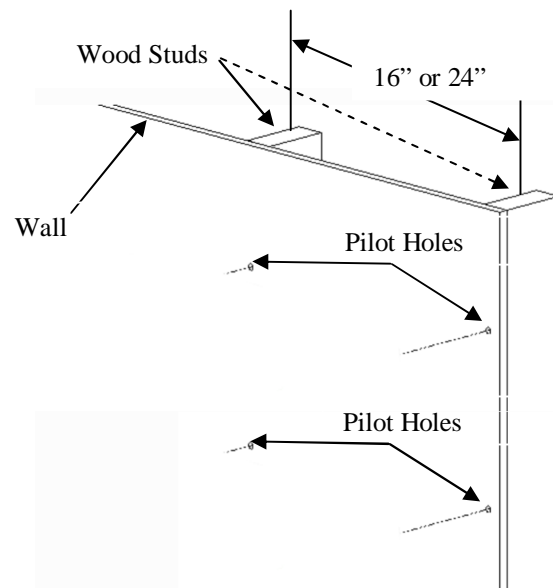

Figure 3. Wood Studs 16" or 24" Apart on Center
2. Using a stud sensor, locate the two wood studs where you will mount the PST. Refer to Figure 3 for dual wood studs that are 16" or 24" apart on center.